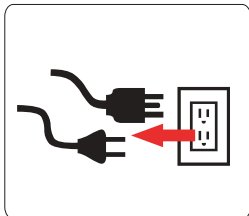

Fig 14
- All loads **MUST** be disconnected from the generator. Never start or stop the engine with electrical devices plugged in to the receptacles. (See fig 14)